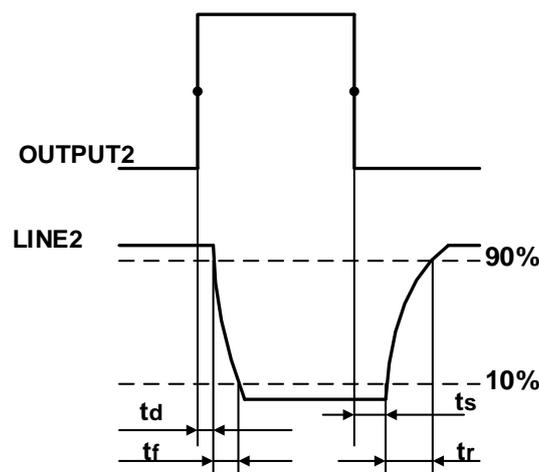

Figure 7-24 Parameter of Line2 output circuit
- Rising time delay = t_d+t_f : $<20\mu s$ ($0^{\circ}C\sim 45^{\circ}C$) (parameter description as shown in Figure 7-24)
- Falling time delay = t_s+t_r : $<20\mu s$ ($0^{\circ}C\sim 45^{\circ}C$) (parameter description as shown in Figure 7-24)